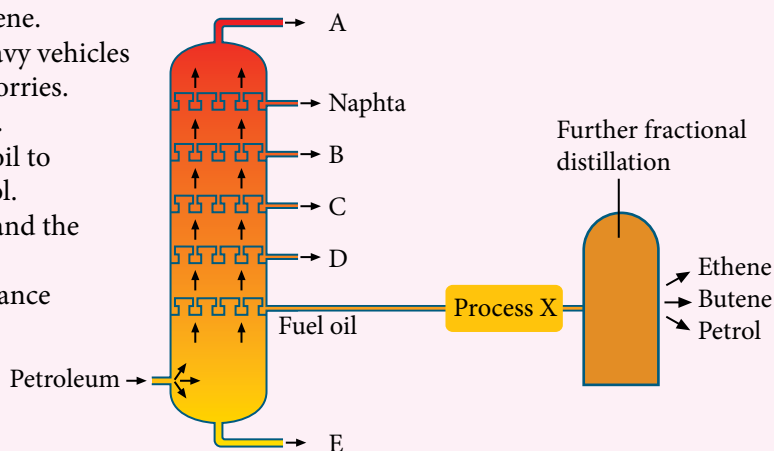

Figure 1
1. Figure 1 shows the products of petroleum fractional distillation at the oil refinery.